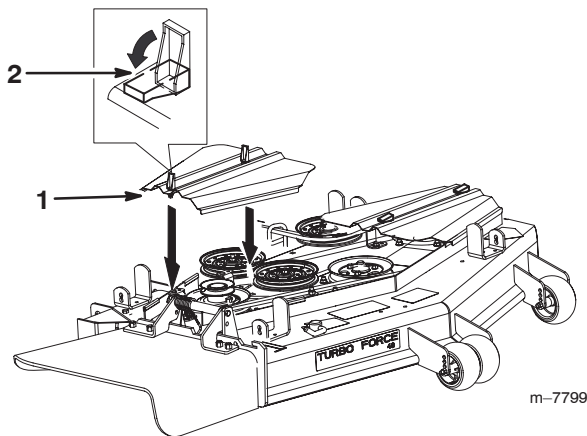

Figure 1
1. Unlatch and remove the right belt cover (Fig. 1).